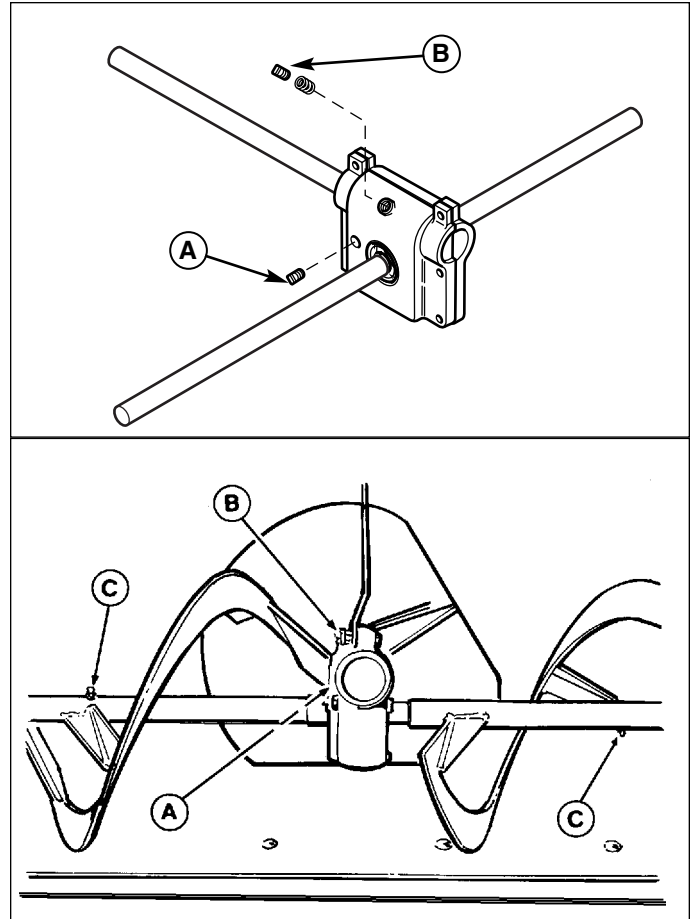

Figure 4. Check Auger Gear Box Oil
See Figure 4. Lubricate the grease zerks on the auger shaft (C) with automotive lithium grease.
4. See Figure 4. Remove check plug (A).
5. Level of oil should be even with check plug. If low, remove fill plug (B), add Simplicity Winter Weight Worm Gear Oil.